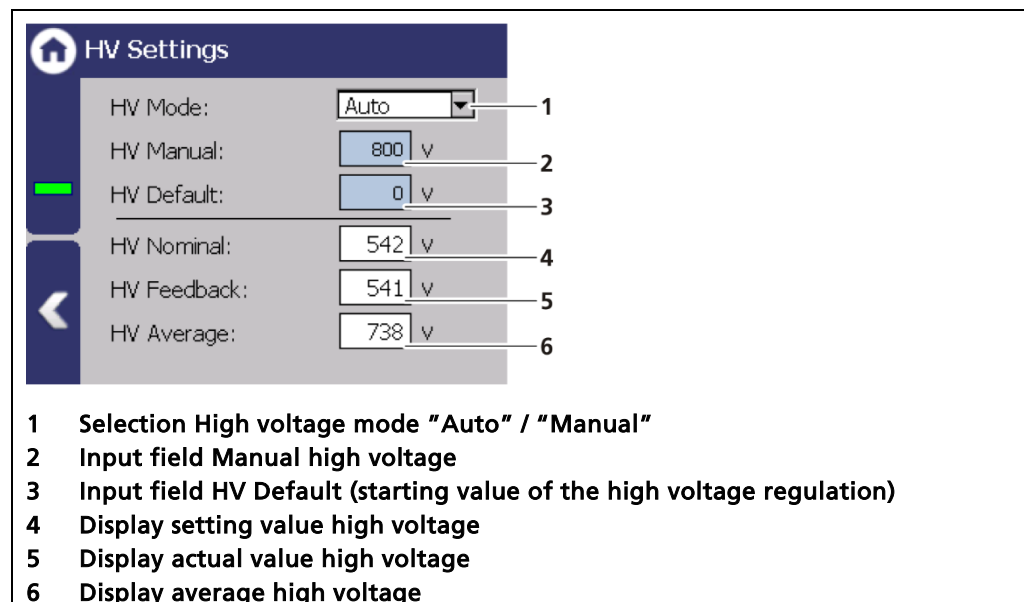

Fig. 72 Overview HV Settings
1. Click on the selection arrow (Fig. 72, item 1) in order to set the desired HV mode (auto or manual).
- ▶ MANUAL: The high voltage is maintained at a fixed, user-entered value (Fig. 72, item 2).
2. Click in the input field "HV Default" (Fig. 72, item 3) to open the input field.